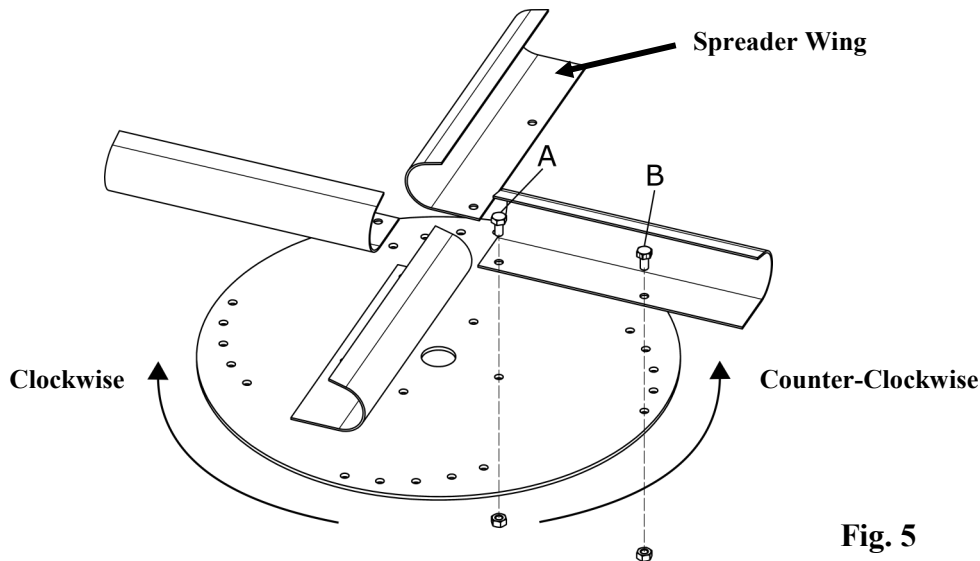

Fig. 5
1. Loosen the knob located on the Adjustment Handle rod (See Fig. 5). Slide the Adjustment Handle in towards the hopper to spread less material, out away from the hopper to spread more material. Sliding the handle all the way in will close the gate and no material is spread.
Spread pattern can further be regulated by adjusting the Spreader Wings located on the Spreader Disc, (See Fig. 5) Loosen the bolt “A” (do not remove) and remove Bolt “B”. Rotate the Spreader Wings *Clockwise* to spread material more to the left. Rotate Spreader Wings *Counter-Clockwise* to spread material more to the right. Be sure to tighten hardware to proper torque settings. See “Torque Specifications” Chart on page 23.